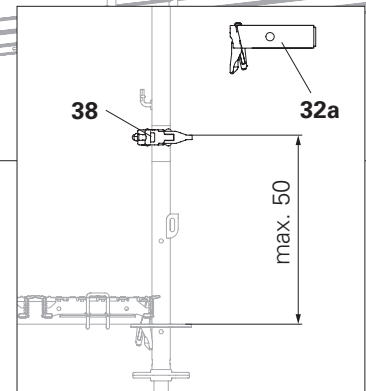
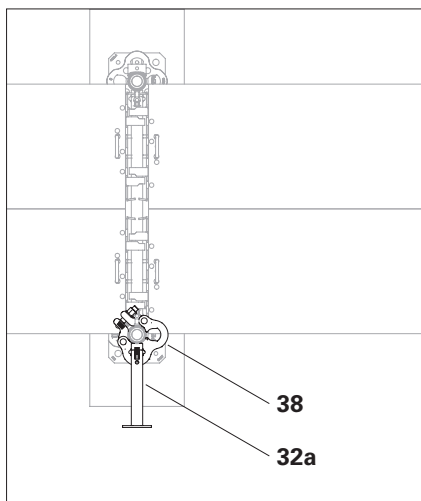

Fig. C1.01a
Fig. C1.01b
1. Mount Supports UC 25 (32) supports on the outer legs of the scaffold at deck level. Secure the wedges.
2. Mount Clamping Rosette UEV 90° (38) on the outer leg at a height of max. 50 cm and tighten with 50 Nm. (Fig. C1.01a + Fig. C1.01b).